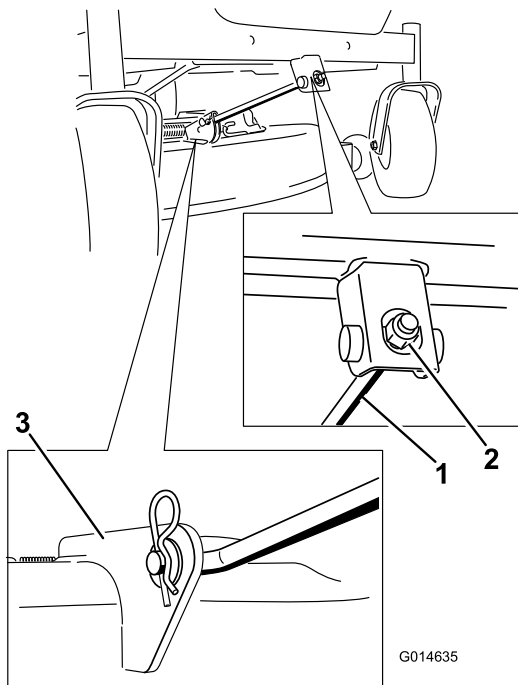

Figure 64
- Remove the hairpin cotter from the front support rod, and remove the rod from the deck bracket (Figure 64).
8. Attach the front support rod to the mower deck with the clevis pin and hairpin cotter (Figure 64).